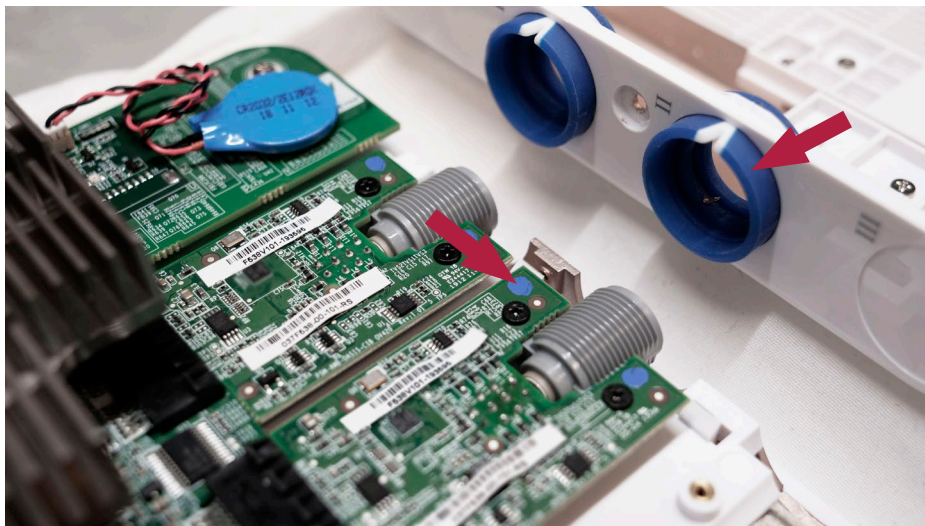

Figure 19 The colour indication on the VDI board must match the colour ring
- f) **Make sure the colour ring is the same colour as the indication on the VDI board (see Figure 19)**
When remounting the back casing, be aware that the coloured spots on the VDI boards (Figure 19) are matching the colours of the colour rings at which they are placed.